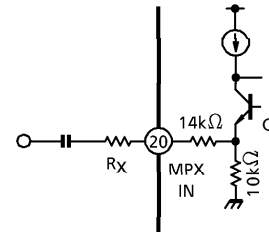

Fig.2 Internal circuit of MPX IN terminal
This IC can attenuate only FM stereo main signal level. Because MPX input for main signal (pin⑳) is independent of that for pilot signal (pin㉑), this terminal is shared with AM input). Internal circuit of MPX IN terminal (pin⑳) is shown in Fig.2. FM stereo main signal level can be attenuated by connecting an external resistor  $R_X$ . Because FM stereo main signal level is attenuated by internal resistor ( $14k\Omega$  and  $10k\Omega$ ) and resistor  $R_X$ . And it is applied to an emitter of transistor Q.